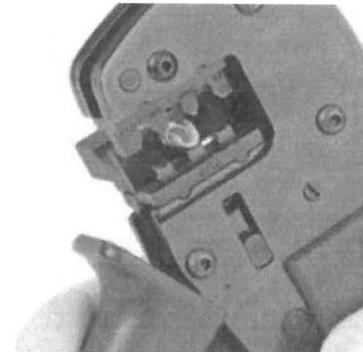

Figure 5
- ◇ 逐渐压压接工具直到插针/插套开口完全接触到压接模（如图 5）。
Squeeze the crimping tool gradually until the male/female terminal touches the lower half of the crimping mold(Fig. 5).